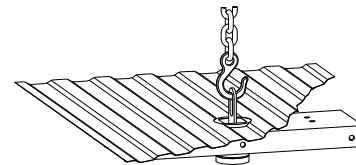

Figure A3
- Prepare a lifting device (optional).** The purpose of the device is to safely hold the hitch in position during part of the installation. See figure A3 for an example. A simple mechanical lifting device is available for purchase from B&W.